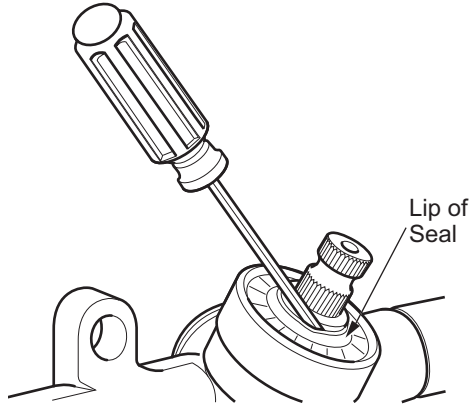

Figure 15 Pinion Seal Replacement
2. Slide a small straight blade screwdriver between the lip of the seal and pinion and pry the top portion of the seal up to remove (Figure 15).